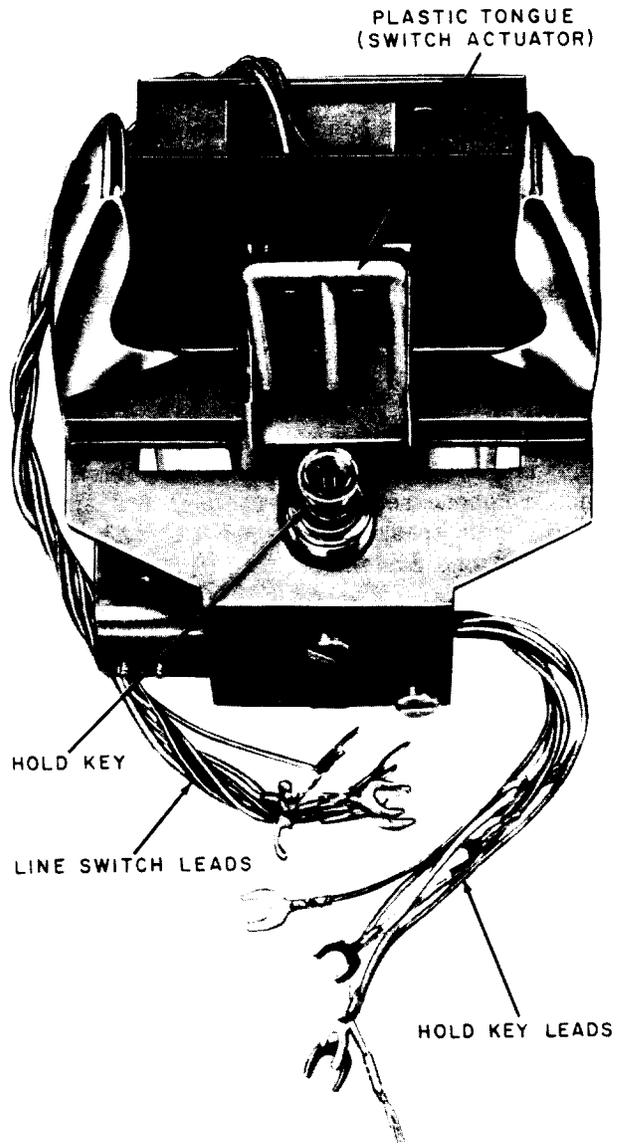

Fig. 16—264A Line Switch
**2.44** The **264A** switch (Fig. 16) is similar to the 263A switch except it is equipped with a hold key for use in installations where a hold or exclusion feature is desired. This switch is similar to that used on 751-type panel telephone sets (see Sections 502-750-300 and 502-750-401) except 18-inch spade-tipped leads are provided. The switch is mounted in the same manner as the 263A switch.